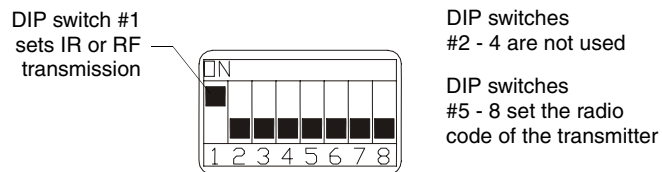

FIG. 7 Eight-position transmitter DIP switch
FIG. 7 shows the eight-position transmitter DIP switch.
The radio code is set with the last four positions on the eight-position transmitter DIP switch (see FIG. 7 on page 7). After the radio code is set on the transmitter, each button you press sends a specific channel number to the control system. For example, if your TXC-MS(L) transmitter is set to radio code 4 and you press button 1, channel number 64 is sent to the control system.